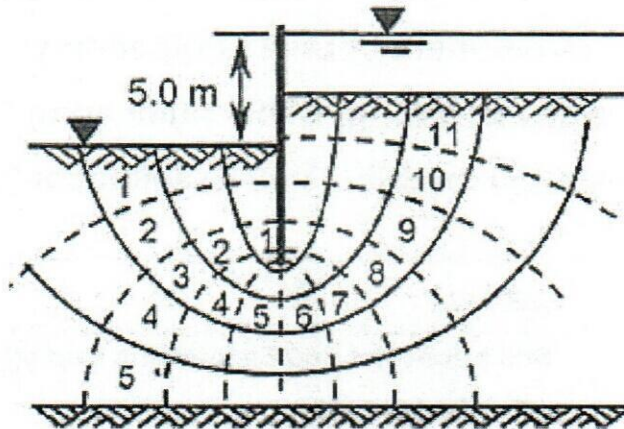

Figure 1
- This paper consists of Four (04) questions. Answer **all four** questions.
- 1) **Figure 1** given below shows a flow net drawn for a sheet pile wall on an isotropic sandy soil with a permeability of 5×10^{-5} m/s